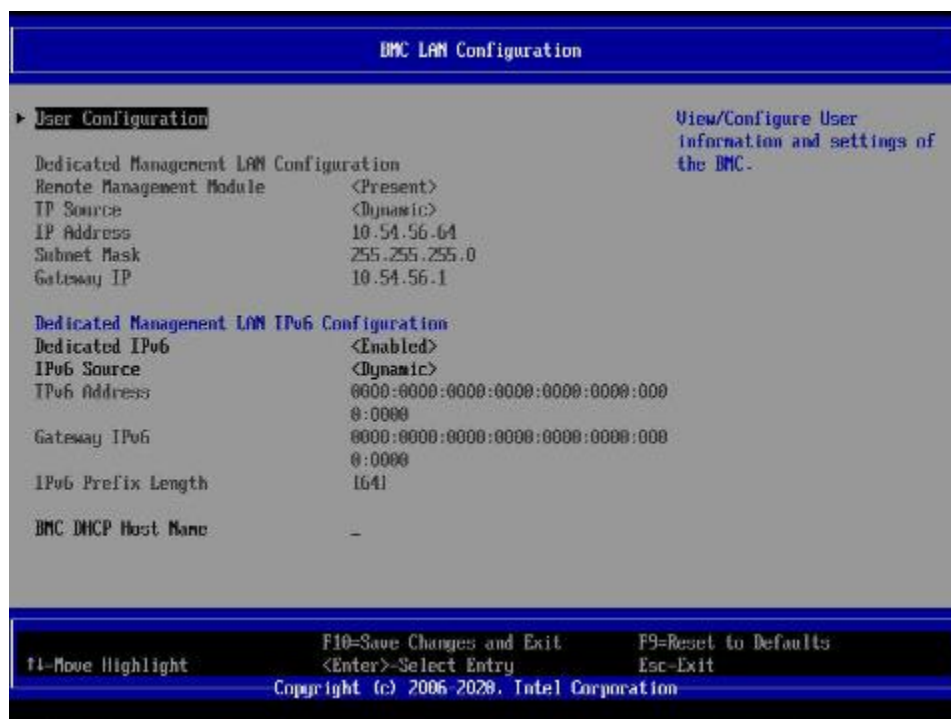

Figure 104. BIOS Setup BMC LAN Configuration Screen
2. Navigate to the **Server Management** tab and select **BMC LAN Configuration** to enter the BMC LAN Configuration screen (Figure 104).